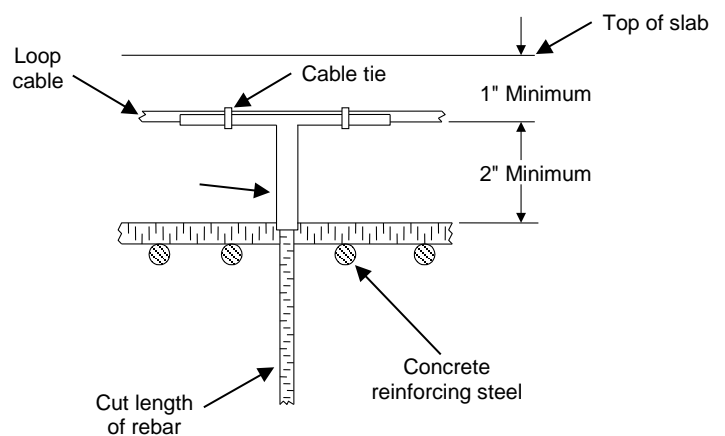

Figure 2
4. Use the tees, rebar and nylon cable ties to hold the loop cable in place. See Figure 2. The lead-in cable can be tied directly to the concrete reinforcing steel.
3. If the thickness of the concrete slab and/or the depth of the reinforcing steel below the top of the slab is such that the minimum dimensions shown in Figure 2 cannot be achieved, contact Technical Support at Reno A & E for guidance.